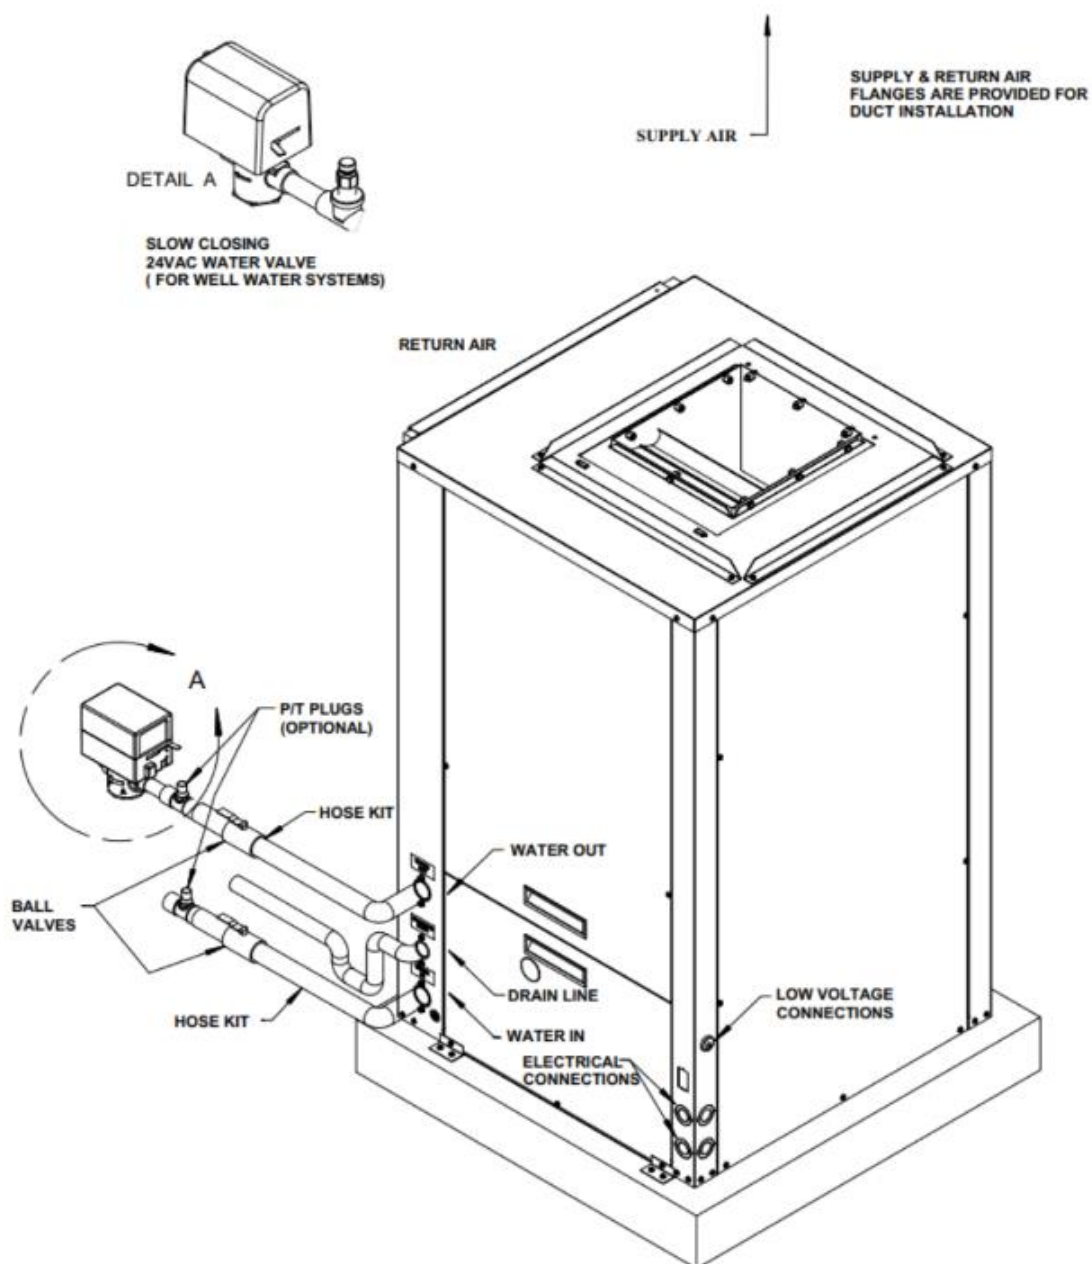

FIGURE 8 – Mounting Installation
**DO NOT** locate unit in areas subject to freezing temperatures or where high humidity levels could cause cabinet condensation. WSV6 units are available in right- and left-hand configurations. Units should be mounted level with a proper drain pan pitch toward the condensate drain as seen in **FIGURE 8 – Mounting Installation**. 3/8"-1/2" vibration isolation pads must be used to minimize vibration transmission.